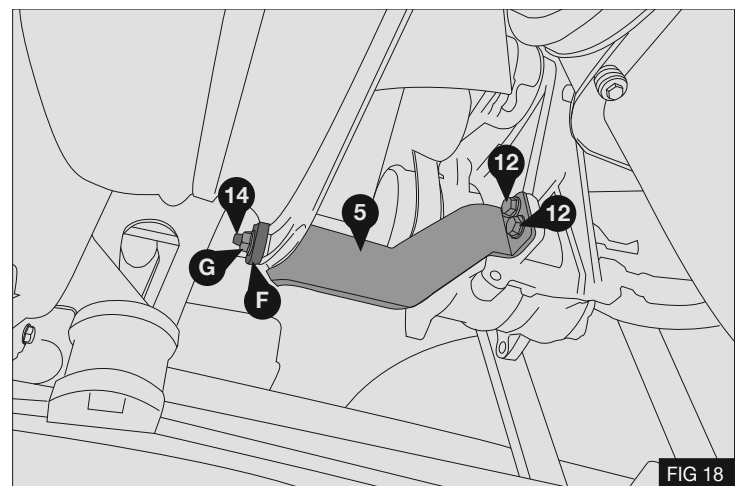

FIG 18
4. Fit stator support bracket (5) using cowl plate (F) and nut (G) with M8 x 16 bolts (12) and M8x30 bolt (14) - Fig 18
5. Torque bolts (12), (14) to 29Nm / 21.4Lbft